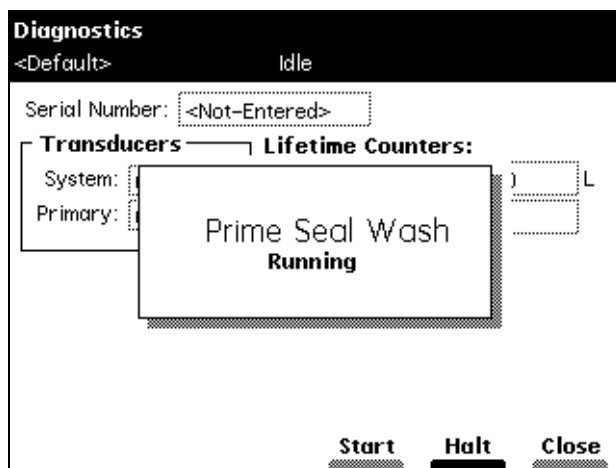

Figure 3-19 Prime Seal Wash Dialog Box
4. In the Main screen, press the **Diag** screen key, then press the **Prime SealWsh** screen key. The Prime Seal Wash dialog box appears (Figure 3-19).